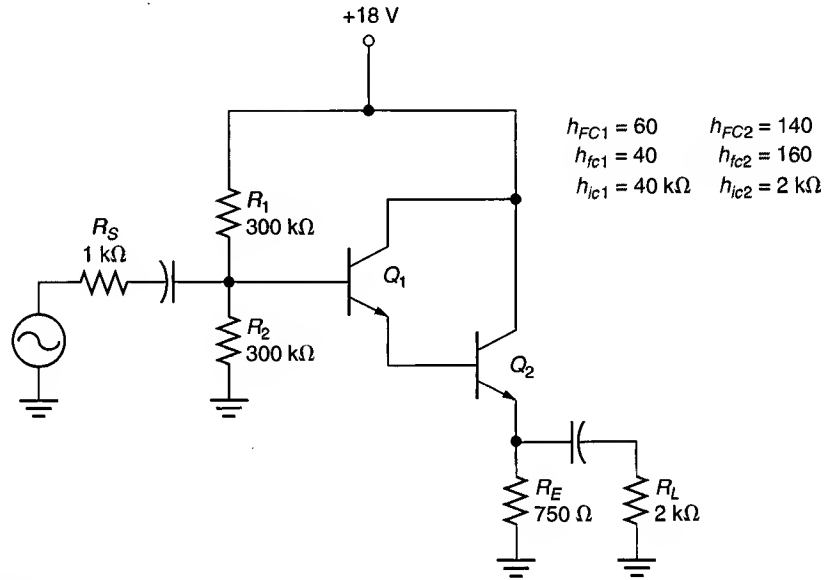

FIGURE 10.26
15. Determine the values of I_E and R_{IN1} for the amplifier in Figure 10.26.
17. Determine the values of Z_{in} and Z_{out} for the circuit shown in Figure 10.26.
19. Determine the value of A_i for the circuit shown in Figure 10.26.
21. Perform a “quick” analysis on the amplifier in Figure 10.26.
32. The circuit shown in Figure 10.26 has the output waveform shown in Figure 10.32. Discuss the possible causes of the problem.